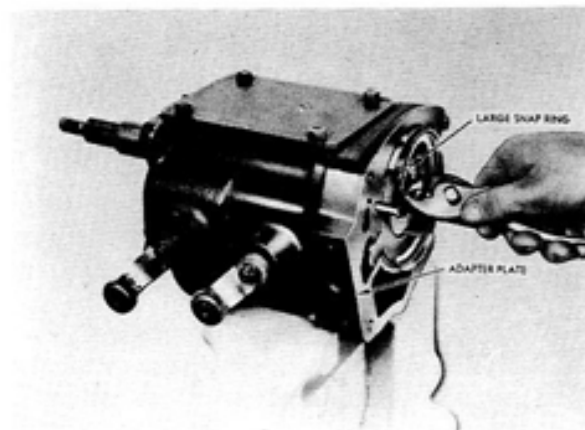
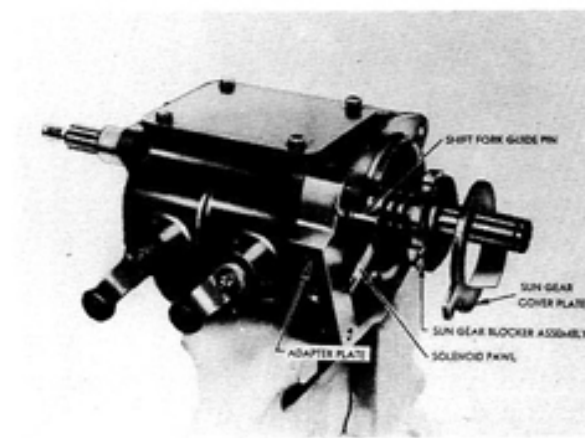

Figure 17.
Figure 18.
k. Remove the large snap ring from the adapter plate (Fig. 17). The retainer plate, the sun gear control plate and blocker assembly, and the pawl can then be removed (Fig. 18).